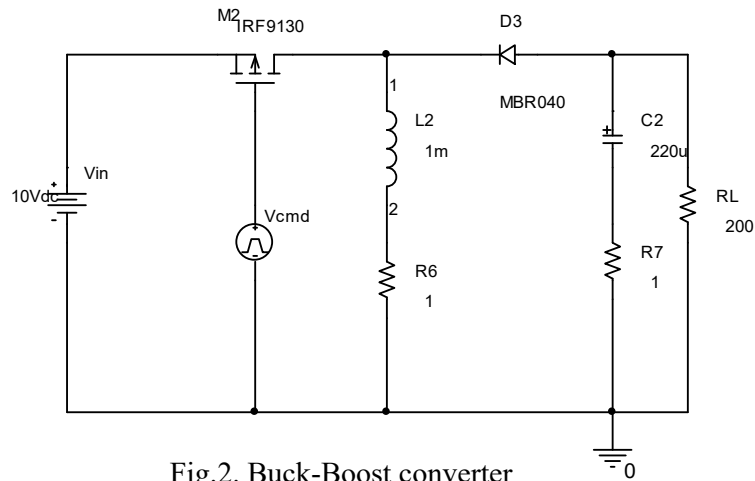

Fig.2. Buck-Boost converter
- For the circuit in Fig. 2, supplied with $V_I=10V$, controlled with a rectangular signal v_{cmd} from the function generator, with an amplitude of 10V, frequency 20KHz and a duty cycle $\delta=50\%$, draw the waveforms of the following signals:
- Supply the circuit in Fig.2 with $V_I=10V$ and connect a load resistance $R_{L1}=200\Omega$. You will do this by disconnecting all the jumpers and connecting $J1$ with $J2$, $J5$ with $J6$, $J8$ with $J9$, $J10$ with $J11$ and $R3$ closed.
- For the circuit in Fig.2 with R_{L1} apply once again v_{cmd} with a duty cycle $\delta=50\%$. Copy the values for v_o and Δv_o obtained in section 2.2.